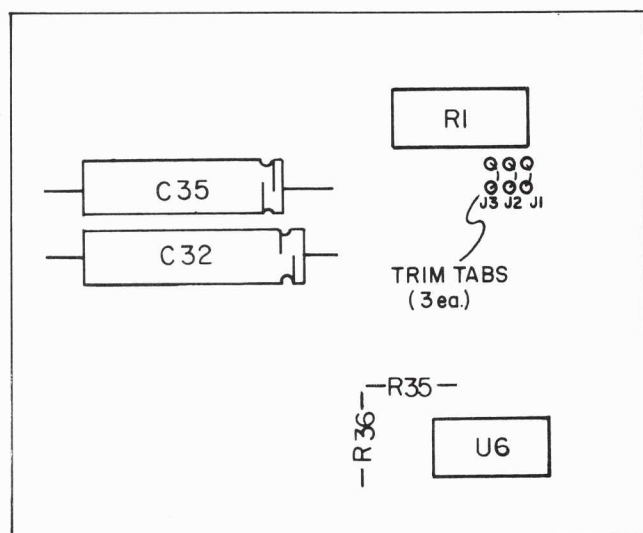

Figure 5-13. R36 and R1 Trim Tabs Location.
- a. Remove R36 and R1 Trim Tabs (Figure 5-13).